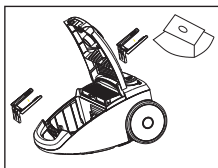

Fig. 14
3. Remove the dust bag from the vacuum cleaner (fig. 14).